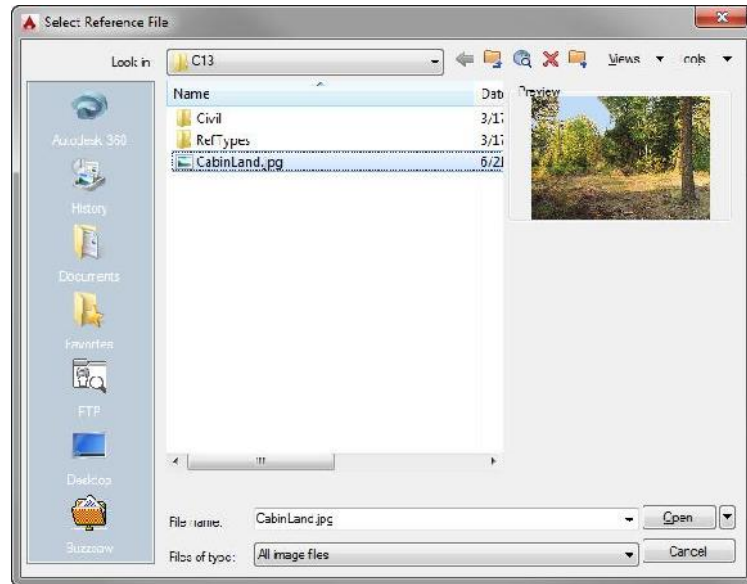

FIGURE 13.29 Selecting the image to be referenced in the Select Reference File dialog box
5. Navigate to the CabinLand.jpg file included with the download for this chapter, and then click the Open button (see Figure 13.29).